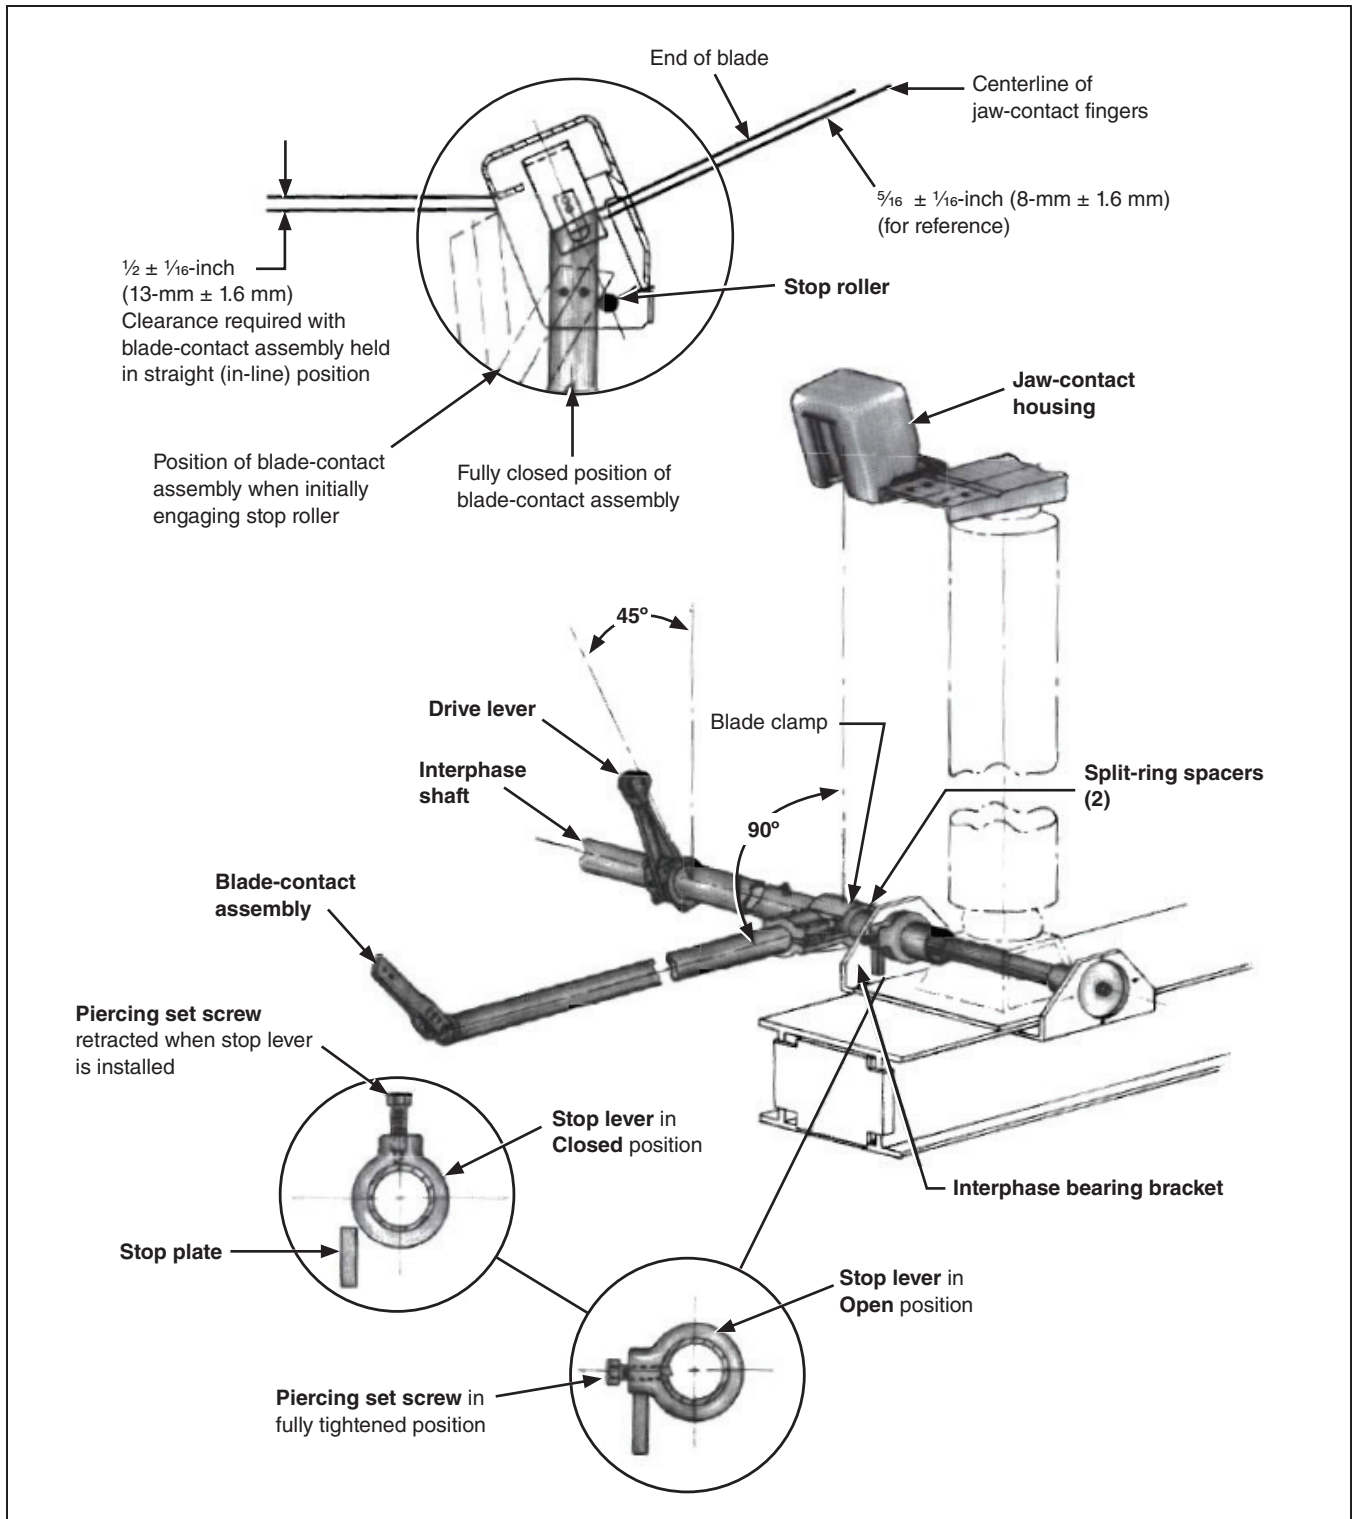

Figure 1. Pole-unit in Open position.
**STEP 1.** Install the interphase shafts, positioned as shown on the erection drawing. At the same time, slip the stop levers over the shafts and position them to correspond with the locations of the stop plates on the interphase bearing brackets attached to the circuit-switcher pole-unit bases. Also, slip split-ring spacers over the shafts and place two of the spacers against each bearing bracket so the spacers position the blade clamps (to be installed in Step 2) in alignment with the jaw contacts. See Figure 1 on page 7. Do not tighten the piercing set
**STEP 3.** Insert a blade assembly into the socket of the blade clamp adjacent to the drive-lever location. Raise the blade assembly toward the **Closed** position (See Figure 1 on page 7) and adjust as follows:
**STEP 4.** Move the installed blade to the fully **Open** position (approximately 90 degrees from its **Closed** position). With the blade in this position, place the associated stop lever against its stop. Then, tighten the piercing set screw, piercing the interphase shaft, and continue turning until a firm resistance is felt. See Figure 1 on page 7.
- STEP 3.** Raise the blade assembly toward the **Closed** position (See Figure 1 on page 7) and adjust as follows: